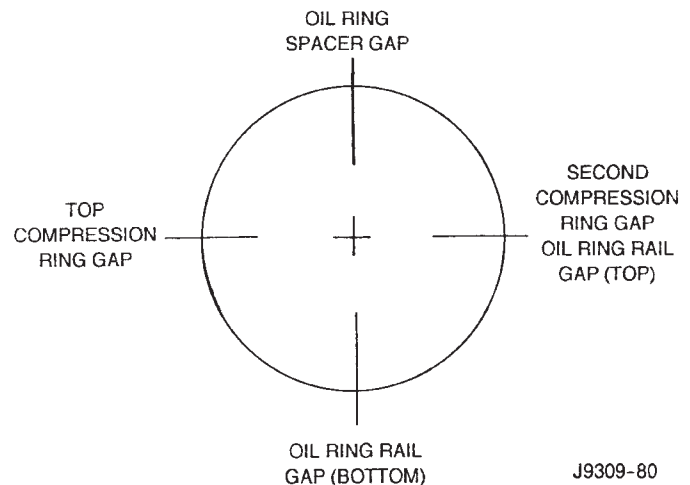

Fig. 39 Proper Ring Installation
(1) Be sure that compression ring gaps are staggered so that neither is in-line with oil ring rail gap.
(2) Before installing the ring compressor, make sure the oil ring expander ends are butted and the rail gaps located properly (Fig. 39).